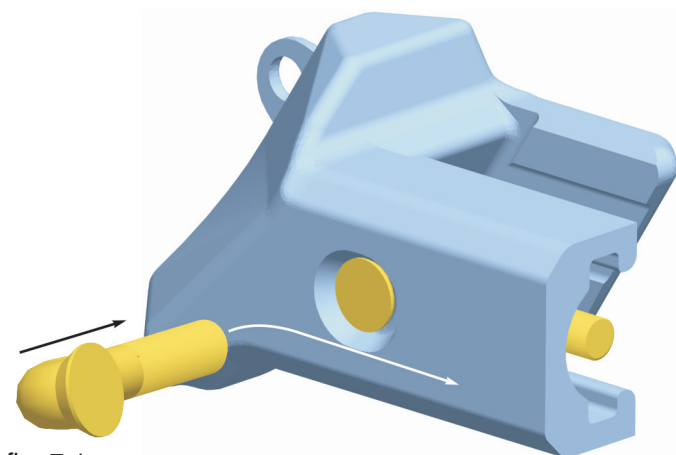

fig. 7-1
**Before** repositioning the shroud on the cheek plate, insert the J-bolt into the shroud through the top hole (fig. 7-1). Rotate the bolt 90° so that the threaded end is facing the rear of the shroud.